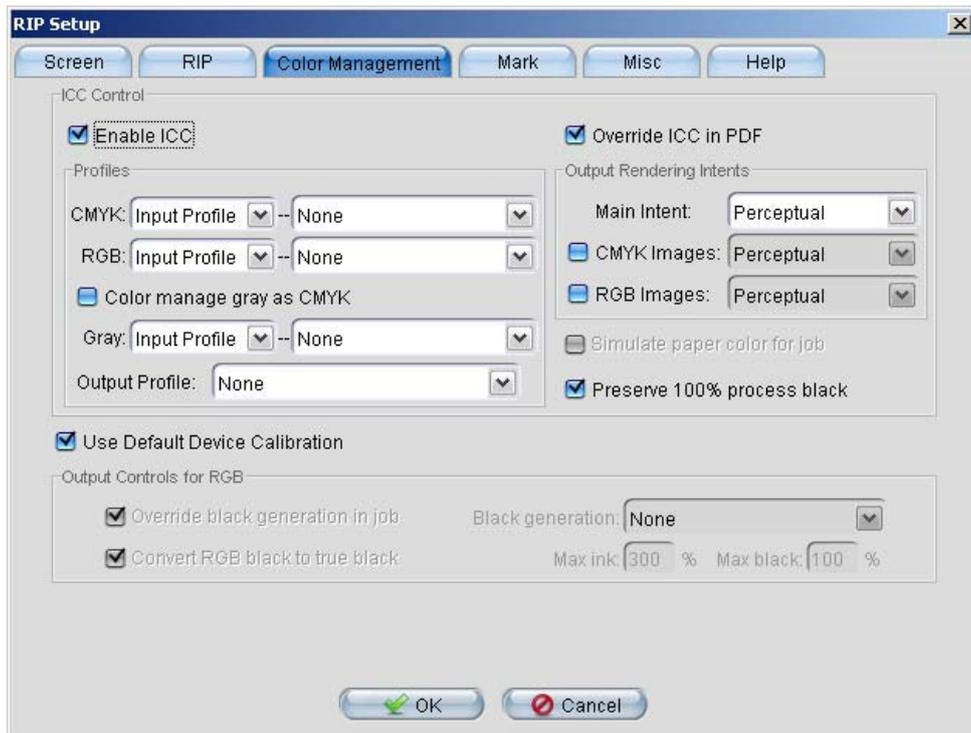

Figure7-10.
**Note:** The options shown in this dialog box (shown in Figure7-10) always take effect for jobs that do not contain color management information. If a PDF job has ICCBased color space, you must select